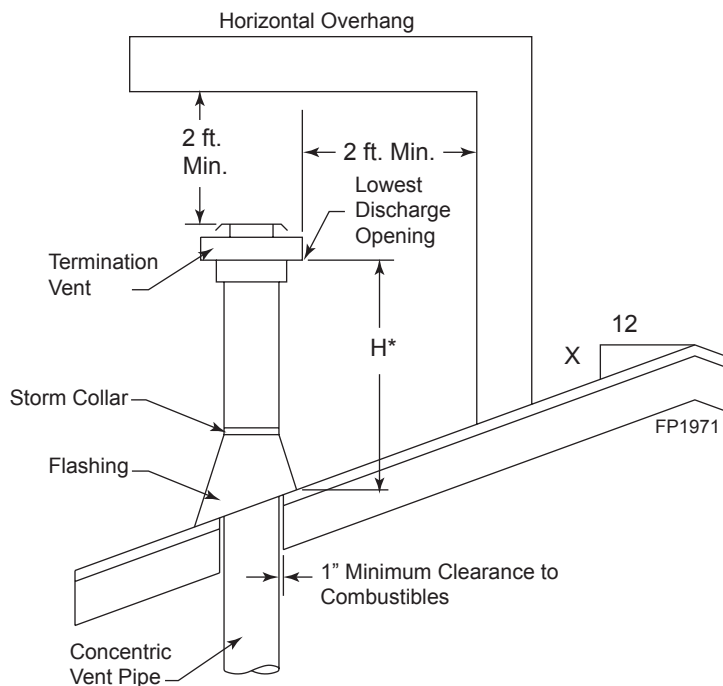

**Figure 38 -
- For the minimum height of the vent above the highest point of penetration through the roof refer to *Figure 38*, Page 26.